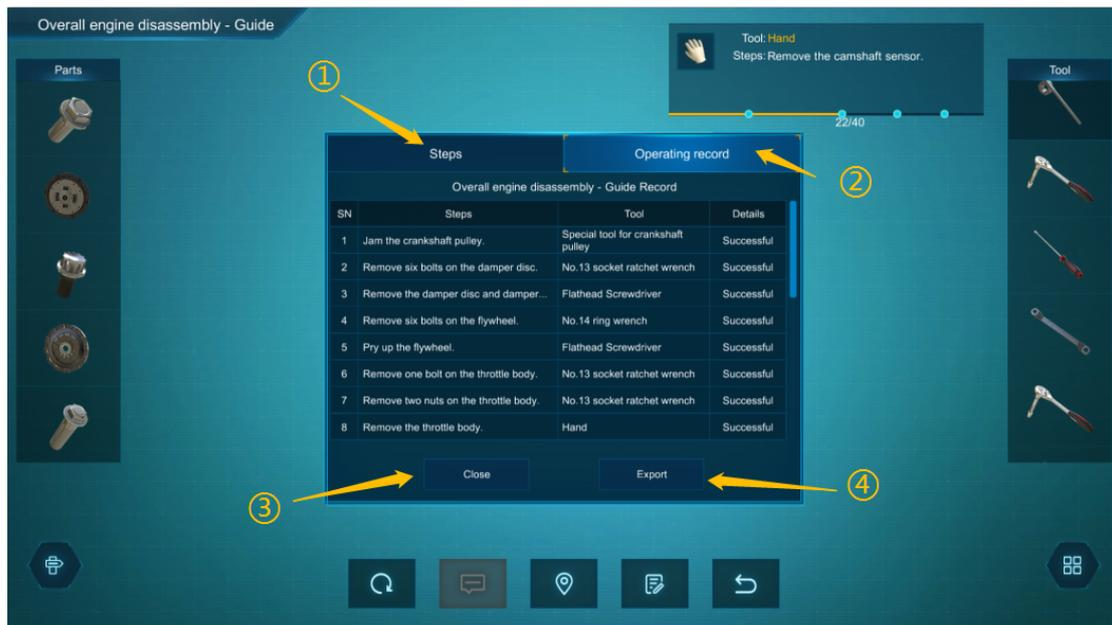

Figure 4-2-6-3 Illustration of operating records
9. The operating record is shown as figure 4-2-6-3. Click on the "Steps" or "Operating Record" button to view all of the standard operating procedures or the records of operation completed.